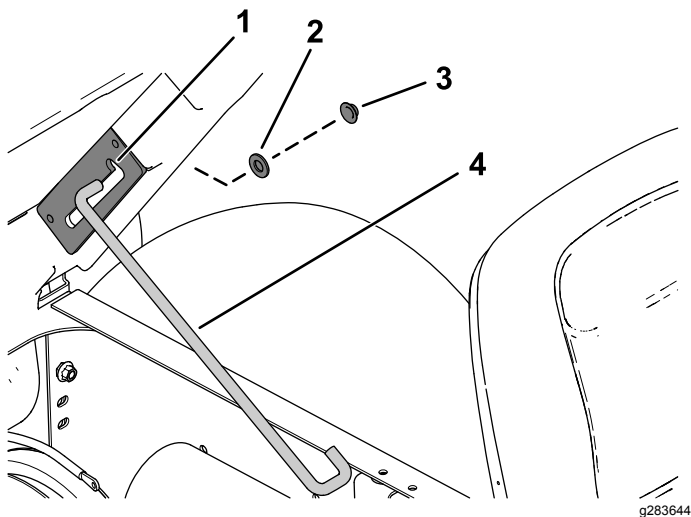

**Figure 3**
4. Remove the 2 flange-head bolts (5/16 x 3/4 inch) and 2 serrated nuts (5/16) that secure the prop-rod bracket and the upper end of the prop rod to the bed (Figure 3).
5. Remove the 2 hex washer-head screws (5/16 x 3/4 inch) and lower prop-rod bracket that secure the lower end of the prop rod to the bed (Figure 3).